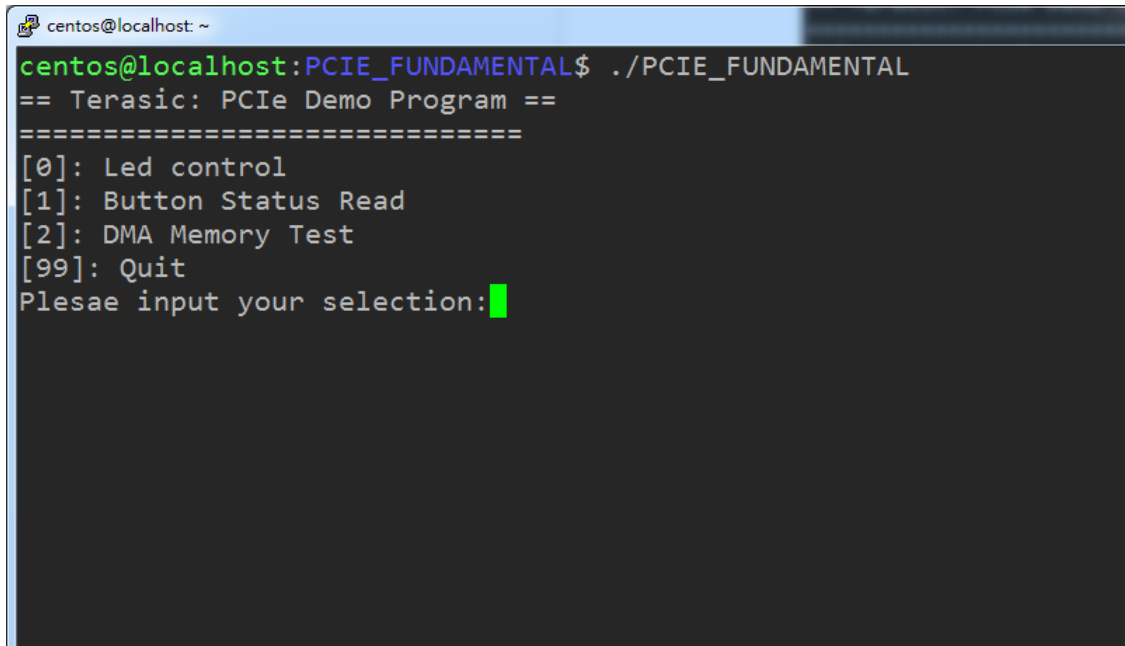

Figure 8-5 Screenshot of Program Menu
8. Goto linux_app folder, execute PCIE_FUNDMENTAL. A menu will appear as shown in **Figure 8-5**.